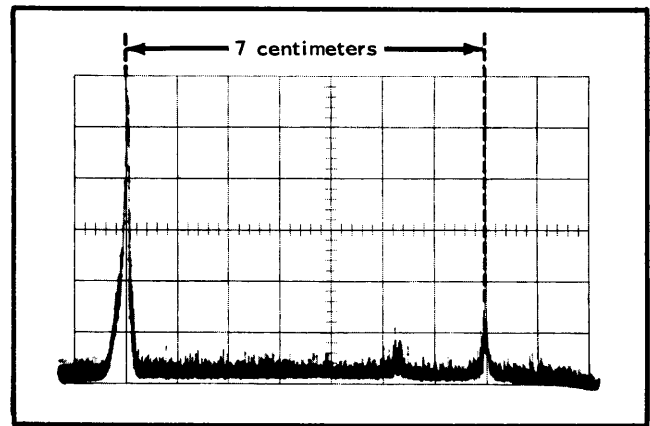

Fig. 2-7. Frequency difference measurement between two signals. DISPERSION RANGE setting = MHz
3. Measure the distance in graticule divisions between the two signals (see Fig. 2-7).
4. Multiply the distance measured in step 3 by the DISPERSION/CM setting to determine the frequency separation. For the example of Fig. 2-7,